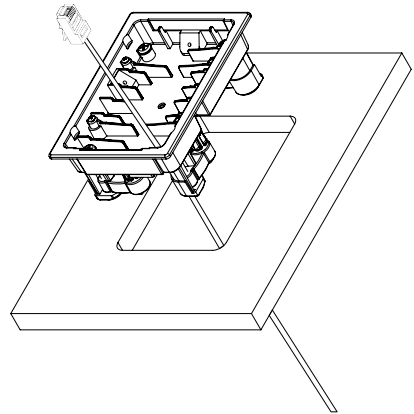

Figure 4: Mounting Cradle Installation
6. Prior to placing the mounting cradle into the wall, pull a sufficient length of the Cat5 cable and its attached RJ-45 connector through the opening in the lower corner of the mounting cradle, as shown in figure 4.